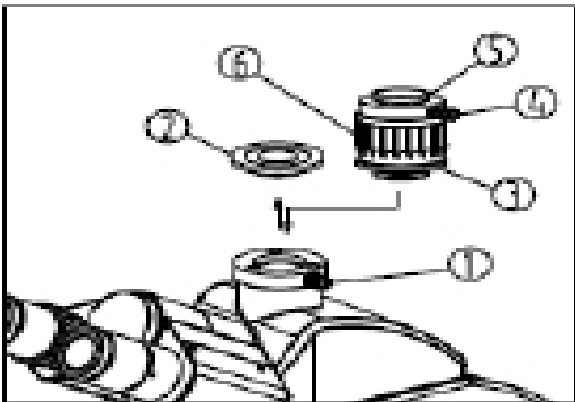

Fig. 21
### C-Mount Assembly (Fig. 21)
1. Loosen the lock screw (1) of trinocular head, and the dust-cover (2) (See Fig.21).
2. Remove the dust-cover caps of the c-mount adapter (3) and the camera. Insert the screw thread end of c-mount adapter onto the camera, and then install the c-mount into the camera port.
3. Tighten down the lock-screw (1).
4. During observation, if the image displayed by the camera is not parfocal with the eyepieces, adjust the focus ring (6) on the camera adapter until the image is in focus.